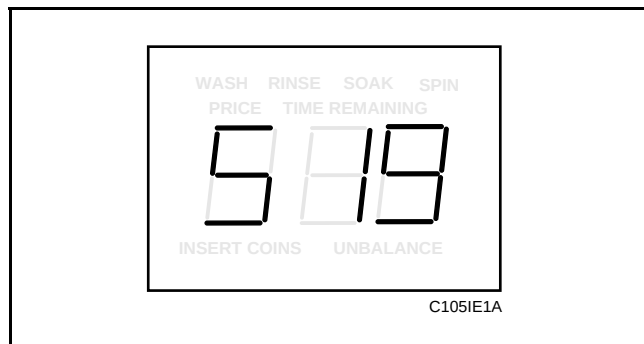

Figure 100
2. While pressing and holding the PERM PRESS keypad with one hand, press the COLD keypad with the other hand. Programmable option number one, “Slg”, will appear in the VFD. See **Figure 100**.